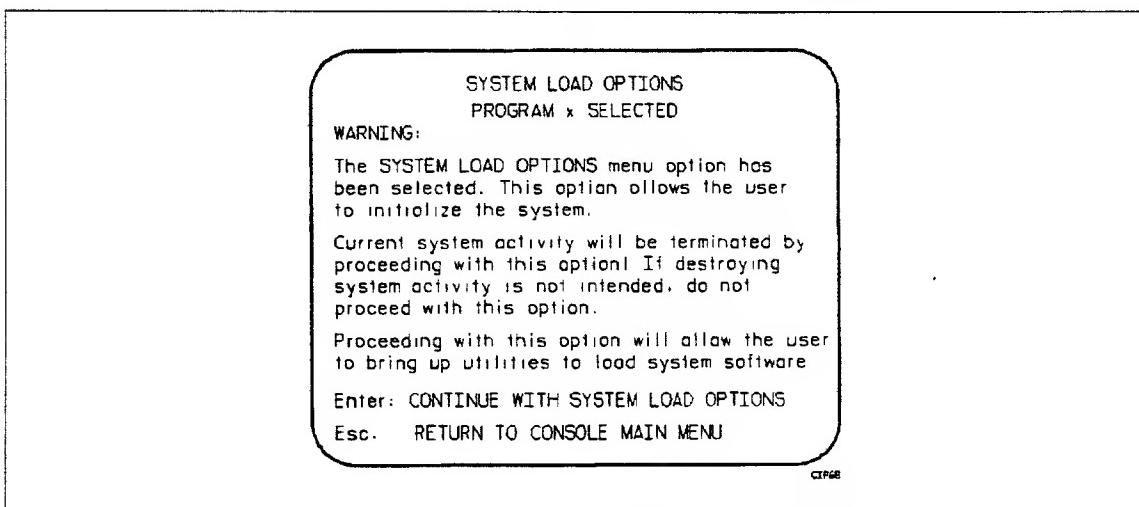

Figure 3-4. System Load Options Warning (Dual IOU Systems)
- a. To execute a short deadstart, type **S** or press **Enter** from the CONSOLE MAIN MENU; the SYSTEM LOAD OPTIONS warning shown in figure 3-4 appears. From this display, press the **Enter** key to proceed with the deadstart. This option deadstarts both IOU0 and IOU1. Upon completion of the deadstart, the INITIAL OPTIONS display appears.
- 2. From the CONSOLE MAIN MENU display, type **S** or press **Enter**. Because current system activity will be terminated by proceeding with the **S** option, the warning display shown in figure 3-4 appears. From this display, press **Enter** to proceed to the INITIAL OPTIONS display.
- 2. From the CONSOLE MAIN MENU display, type S or press Enter. Because current system activity will be terminated by proceeding with the S option, the warning display shown in figure 3-4 appears. From this display, press Enter to proceed to the INITIAL OPTIONS display.